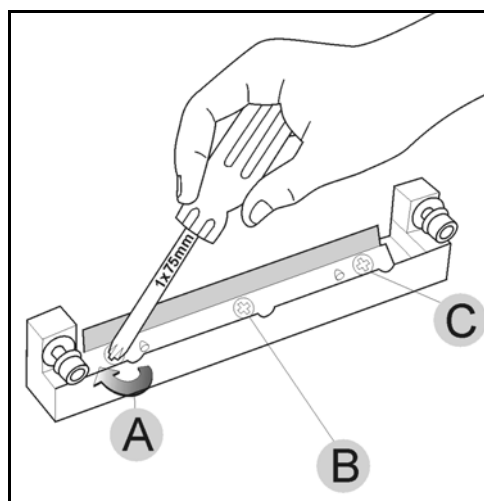

Figure 6-39: Tightening the roller scraper screws
- Tighten the screws in the order shown in figure 6-39.